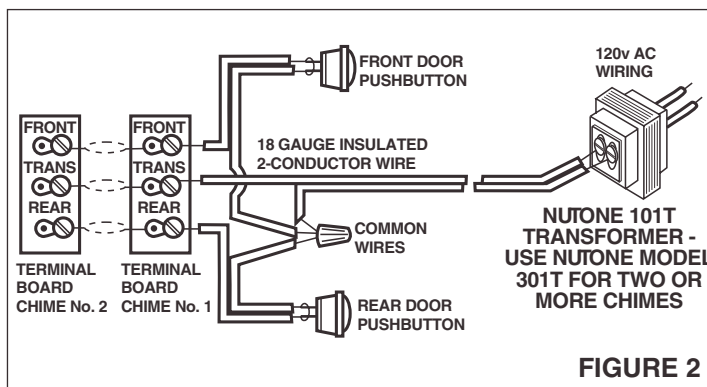

FIGURE 2
4. Refer to Figure 2. Bring wires into the mounting frame. Connect the transformer and pushbutton wires to the terminal board on the chime base plate.